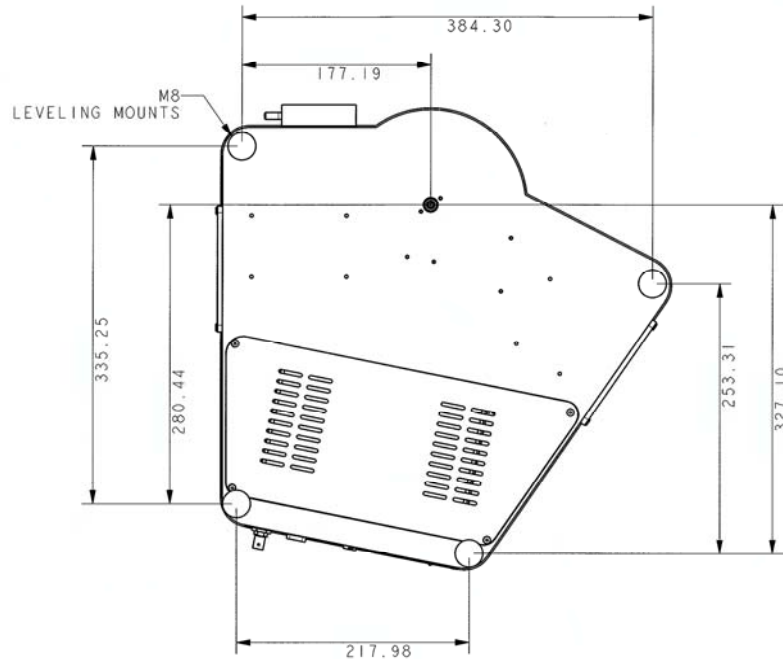
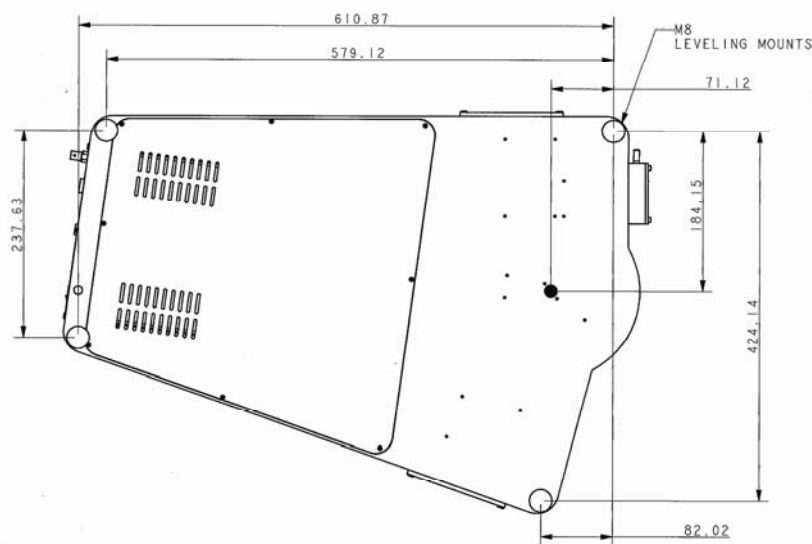

Figure 4. Bottom View of iHR320 Showing Mounting Hole Locations
Figure 5. Bottom View of iHR550 Showing Mounting Hole Locations
2. Screw the tilt feet into the four M8 tapped holes located at the base of the instrument (see Figure 4 for iHR320 and Figure 5 for iHR550). The height and tilt of the unit can be set by adjusting the feet.